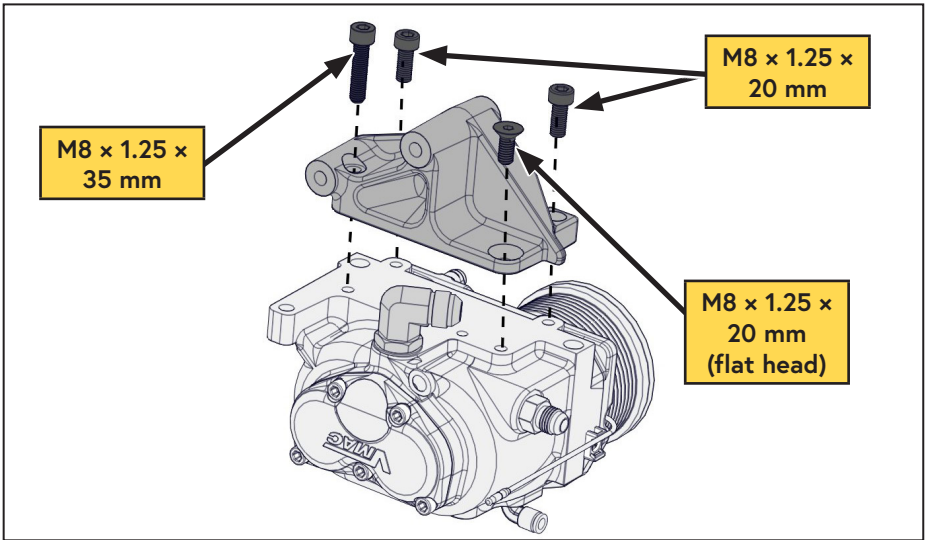

Figure 12 — Mounting the compressor to the main bracket
- Mount the compressor onto the bracket using the (×4) supplied fasteners (Figure 12).